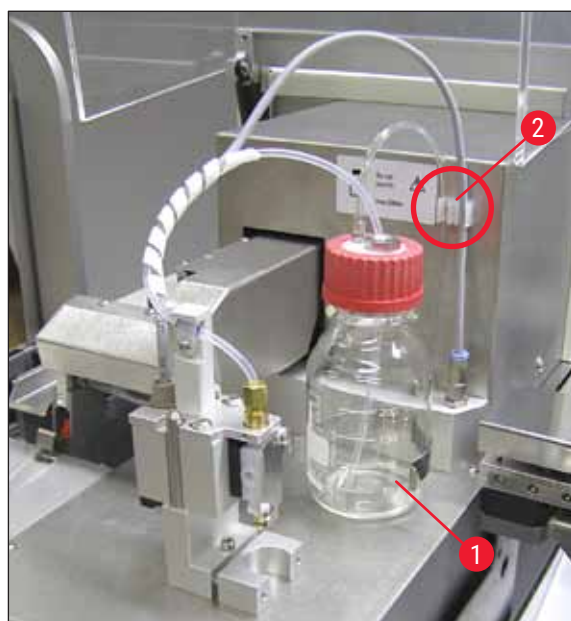

Fig. 12
6. Screw the cover (→ Fig. 10-5) onto the mountant bottle (→ Fig. 12-1) and place the mountant bottle into the holder (→ Fig. 12).